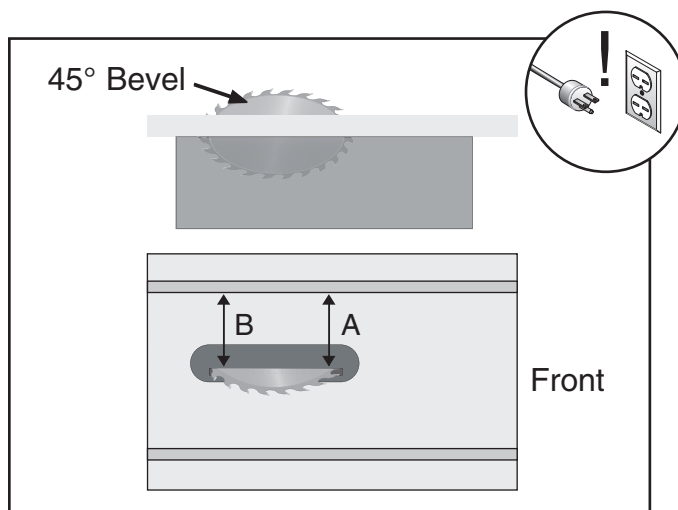

Figure 58. 45° blade parallelism measurement.
2. Using **Figure 58**, shim the trunnion assembly according to the difference measured when the blade was in the 45° position.